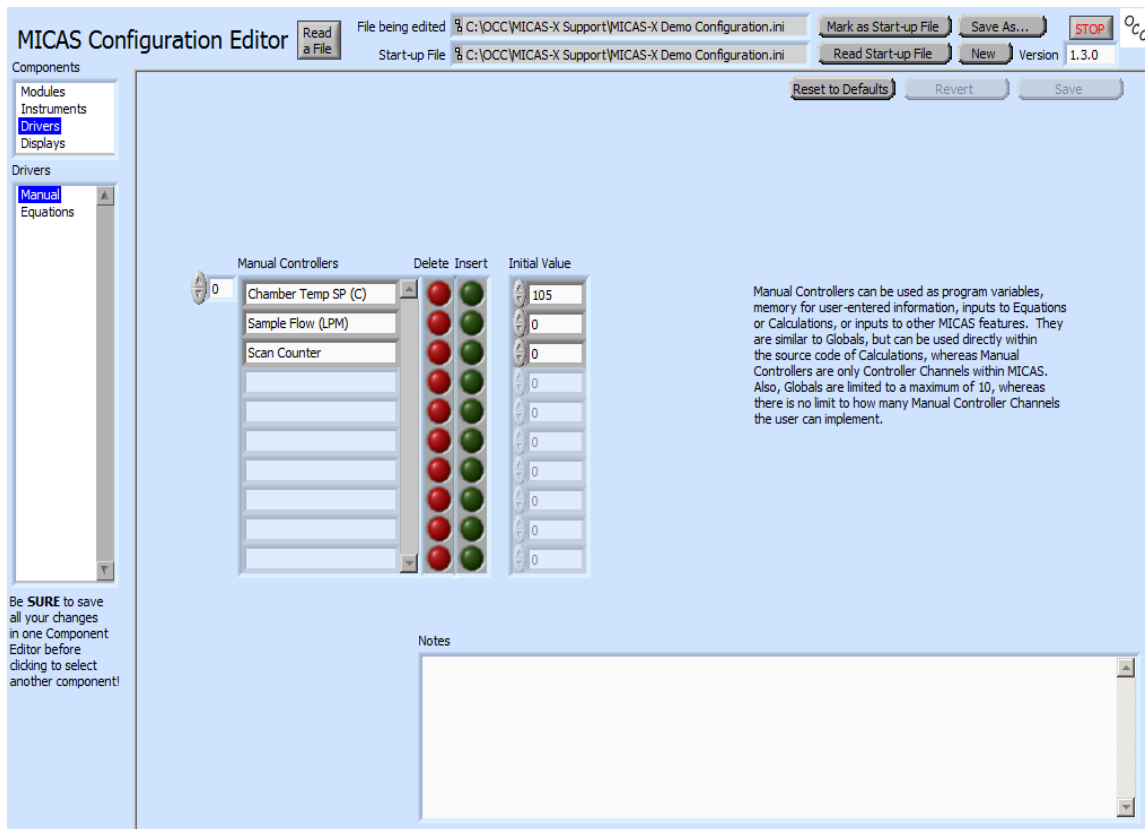

Figure 3. Configuring “Manual” channels for the Manual Driver.
Now go to the 'Drivers' section under the 'Components' menu, and select the 'Manual' driver in the Drivers list on the left side of the screen. In the 'Manual Controllers' section, insert 'Chamber Temp SP (C)' in the first slot (short for Chamber Temperature Set Point), 'Sample Flow (LPM)' in the second, and 'Scan Counter' in the third. Change the initial value of the Chamber Temp SP (C) from 0 to 105. Save the parameters. The screen should look like that shown in Figure 3.